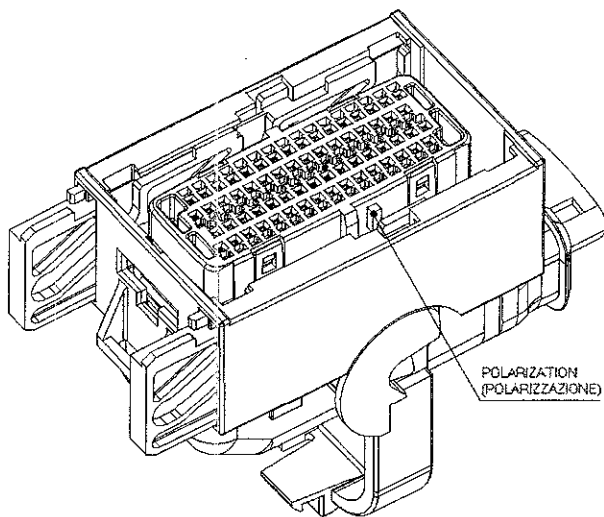

Figure 24 (Figura 24)
- Mating the connector with open lever on the counterpart respect to the polarization (see Figure 24)